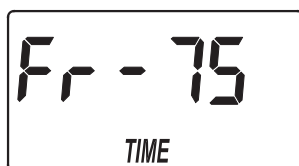

FIG. 22
1. If you completed the previous step, the aspirate time adjust screen should show in the display (See Figure 22). Otherwise, press and hold for 3 seconds the SELECT button, until the display shows "000 - -", then press the SELECT button twice to display the aspirate time adjust screen.